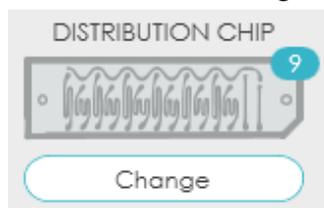

Figure 13) Distribution chip display on Instrument General Screen
- The chip icon has a countdown badge as shown in Figure 13. The badge is displayed with different colours.